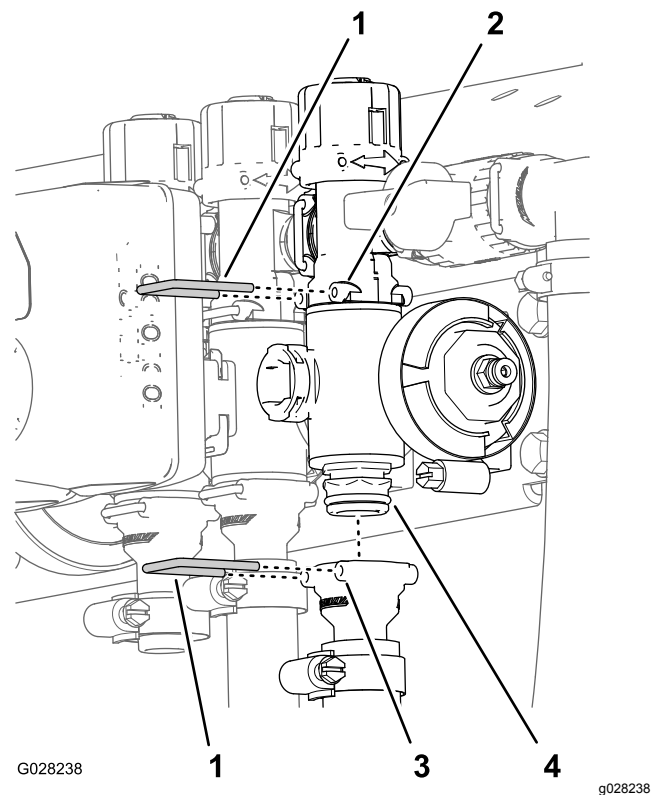

Figure 105
2. Remove the retainers that secure the outlet fitting to the section valve manifold and the valve manifold to the bypass fitting (Figure 105).